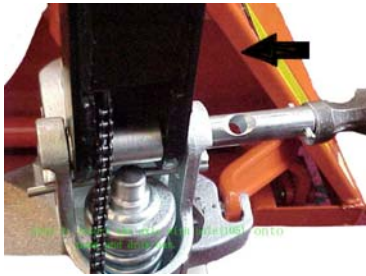

Fig. 2
2.1 Insert the draw-bar onto the pump piston (303), then use a hammer to insert the axle with hole (105S) into the hydraulic pump and draw-bar **from the right to left**. (See fig. 2).